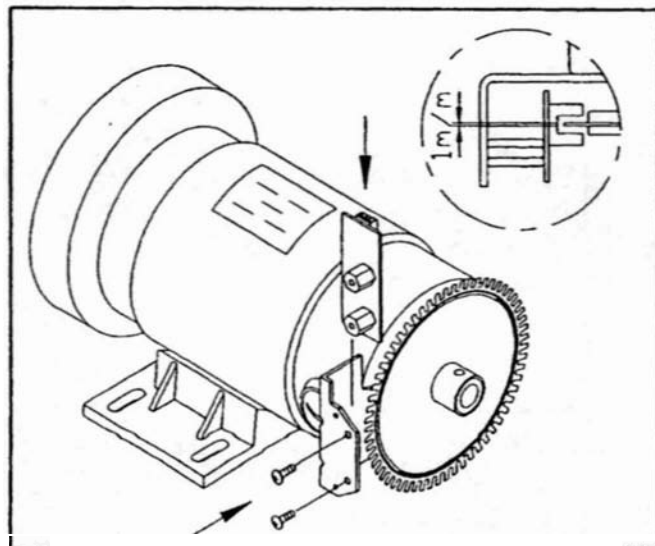

Fig.5
6. Place optical switch on its position and hold it with two PH screws, but do not fasten it yet. Also keep proper space between optical switch and tachometer wheel.(see Fig.5)